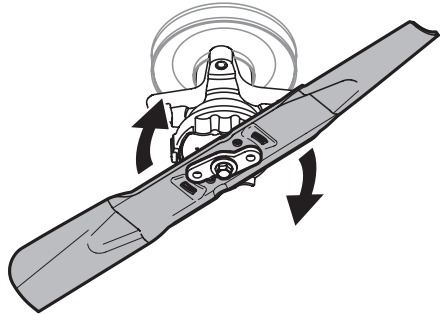

Figure 49
5. Rotate the blade clockwise to align with the blade adapter (Figure 49).